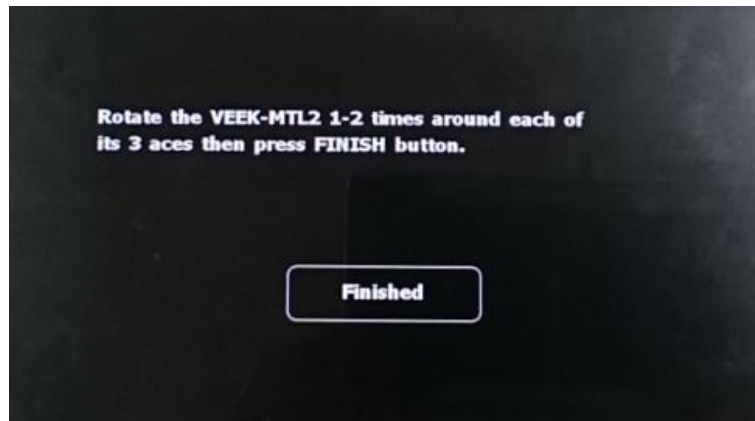

Figure 4-21 Hint for rotate VEEK-MT2
- Touch the Calibration button to start the calibration process. When the button is touched, the LCD content will be changed as shown in **Figure 4-21**.